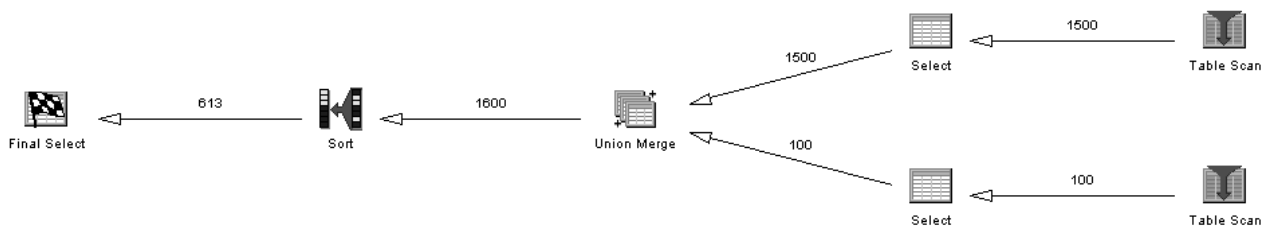

Figure 15. UNION graph
3. Verify that the graph you received looks like the example shown in Figure 15.